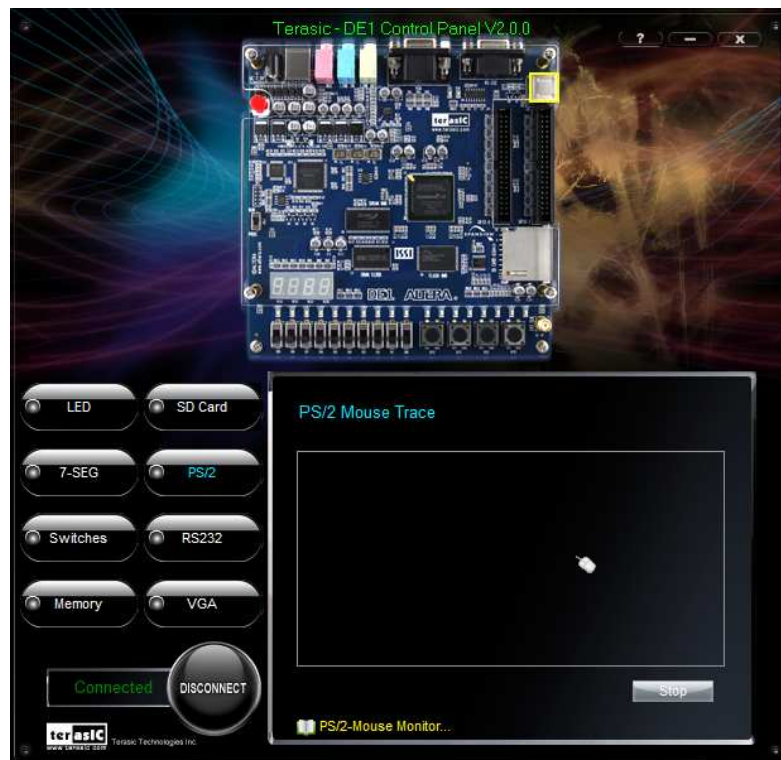

Figure 3.7. PS/2 Mouse Monitoring Tool.
1. Choosing the PS/2 tab leads to the window in Figure 3.7.